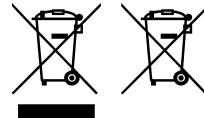

Fig. 1 Fig. 2
4. the symbol (crossed-out wheeled bin – Fig. 1) even if, shown on the product or on the packaging, indicates that the equipment must be disposed of separately at end-of-life;